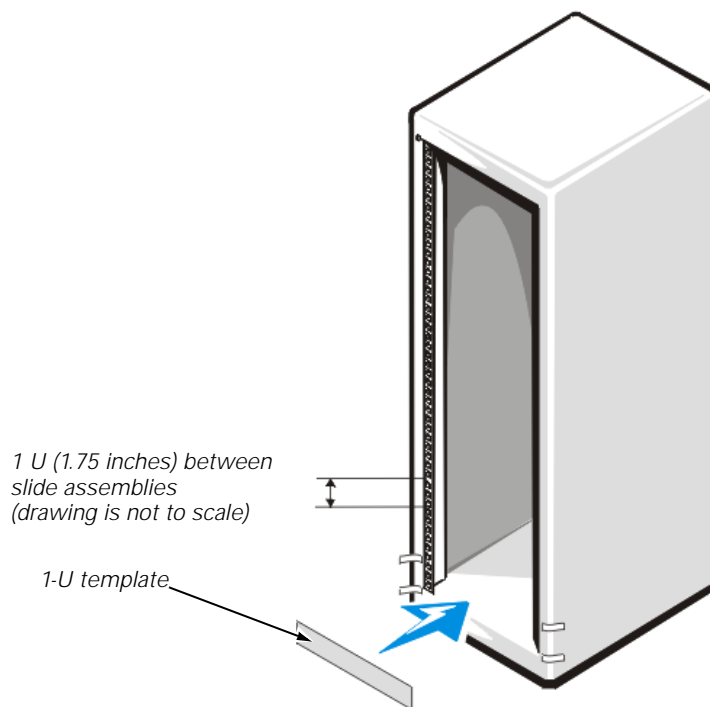

Figure 15. Using Template to Mark Vertical Rails
2. Mark the rack's front vertical rails with a felt-tipped marker or place masking tape where the system's upper and lower edges will be located (see Figure 15). Make a mark or place tape on the vertical rails next to the template's V-shaped notches.